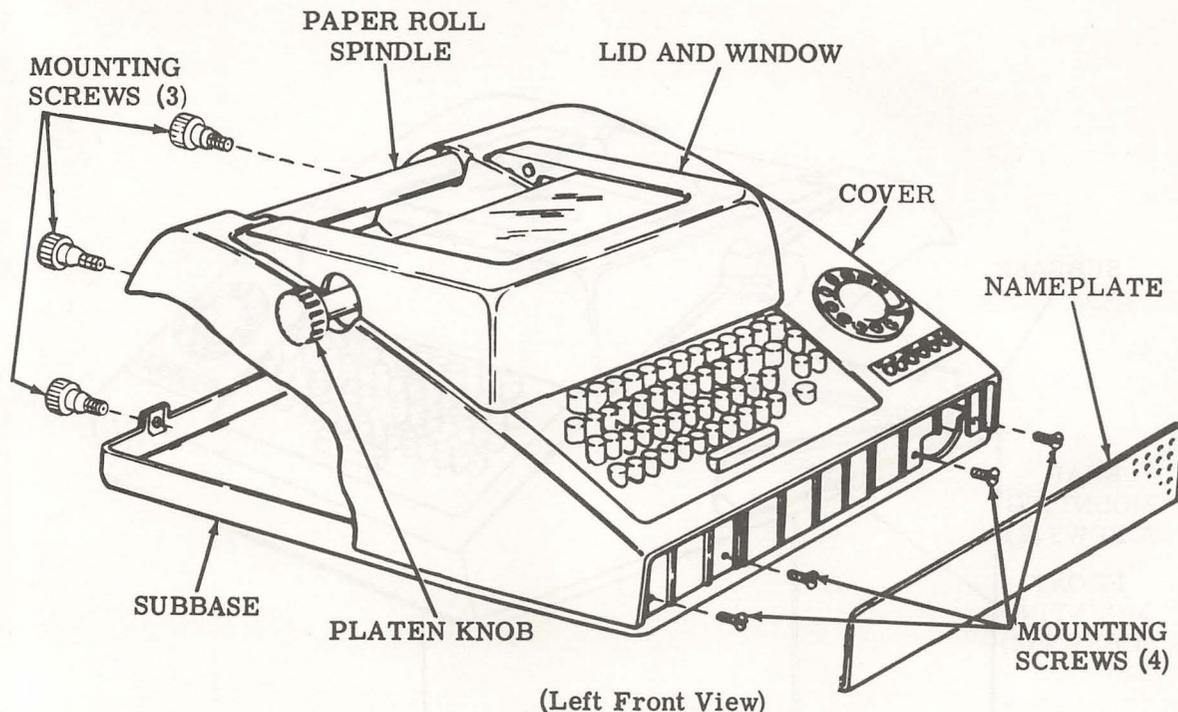

Figure 2 - Cover Mounting
1.10 Remove the call control bezel, if used, after removing its two mounting screws. Remove volume control knob or power switch rotary knob, if used, by pulling knob forward. Detach the nameplate (Figure 2) by pulling it down and out. Remove the four front and three rear cover mounting screws.
3.02 Replace the cover over the typing unit and onto the subbase (Figure 2). Take care that all seams are tight and that keyboard push-buttons, dial, etc, are properly aligned. Insert and tighten the cover mounting screws removed during PREPARATION FOR INSTALLATION.